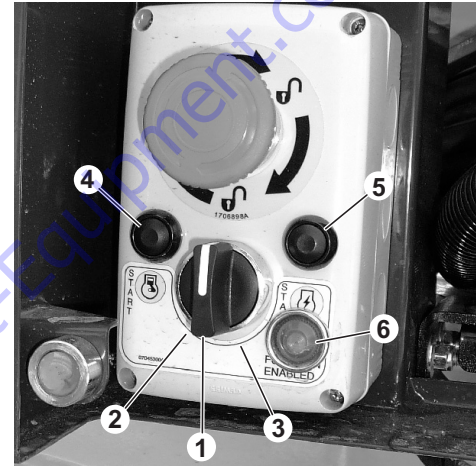

Figure 4-1. Ground/Emergency Control Box
2. Power the machine using a heavy duty AC power cord with sufficient amperage capacity, through the connector (*item 2*) positioned near the electric engine.
3. Turn on the circuit breaker switch (*item 1*) positioned behind the clear cover near the electric engine (— symbol is ON - O symbol is OFF).
4. Start the electric engine using the engine start button at the ground/emergency control box. (*item 5 - Figure 4-1.*) and operate machine.